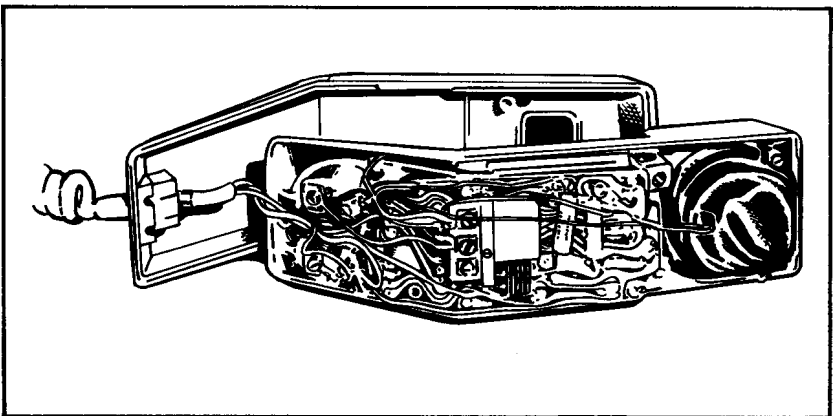

FIGURE 14. Digitone Handset Showing Lead Dressing
f. Reconnect lead colors to agree with terminal designations. (See Figure 14 for lead dressing.)